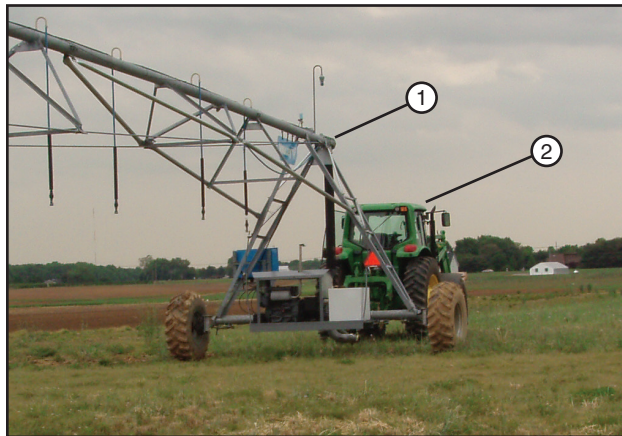

Figure 66-2 1. 2 Wheel Linear
5. Attach the tongue to the towing unit. See figure 66-2.